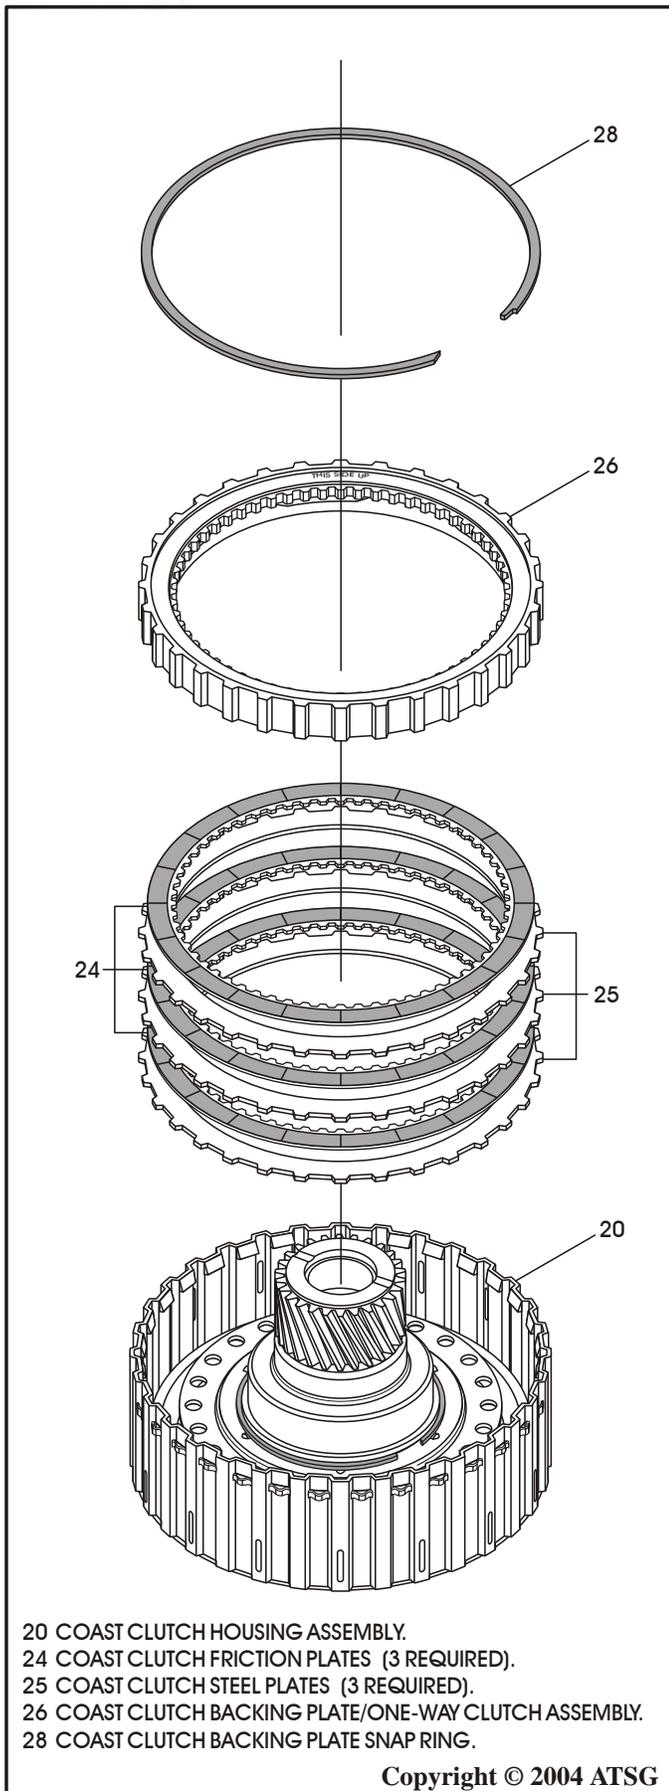

Figure 100
10. Install the coast clutches beginning with a steel plate and alternating with friction plates until you have installed three of each, as shown in Figure 100.
11. Install the coast clutch backing plate and O.D. one-way clutch assembly, into the coast clutch housing in the direction shown in Figure 100.
12. Install the coast clutch backing plate snap ring into the housing, as shown in Figure 100, and ensure that it is fully seated.